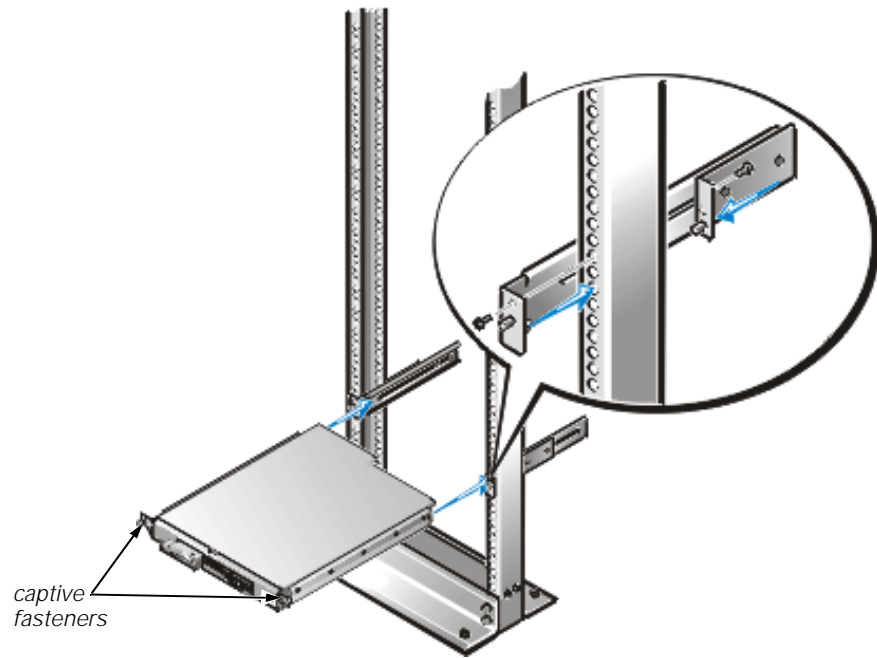

Figure 8. Securing the Computer System in the Rack
3. Move the system back with its inside rail engaging the mounting bracket. Slide the system completely into position and secure it to the rack using the captive fasteners at the outer edge of the front panel (see Figure 8).